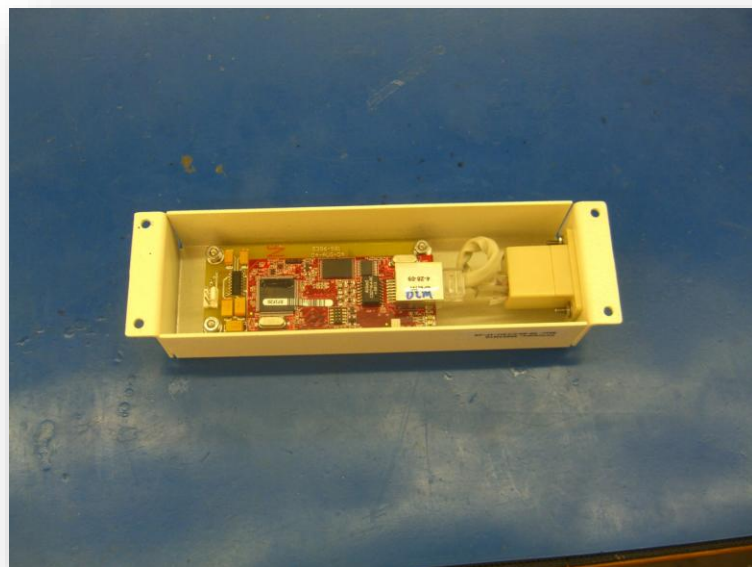

Figure 42 – External Rabbit Ethernet Board disconnected
2. Disconnect the 3-pin MTA connector from the Ethernet board to separate it from the area monitor. See Figure 42.